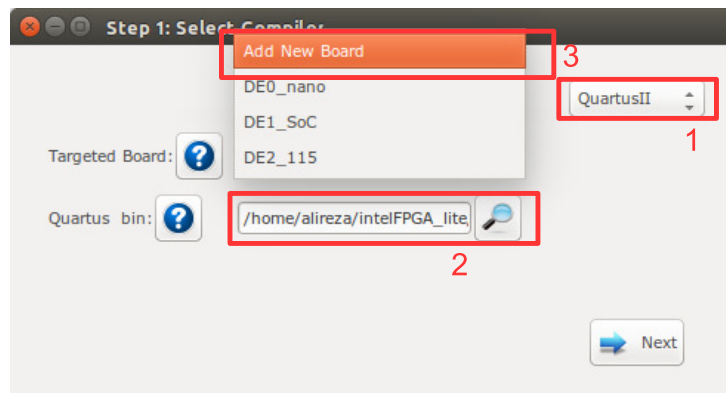

Figure 5.24: Select Verilator compiler.
1. Press Compile RTL button  in right down corner. This should open "select compiler window" as shown in Figure 5.24. Select QuartusII as compiler tool.